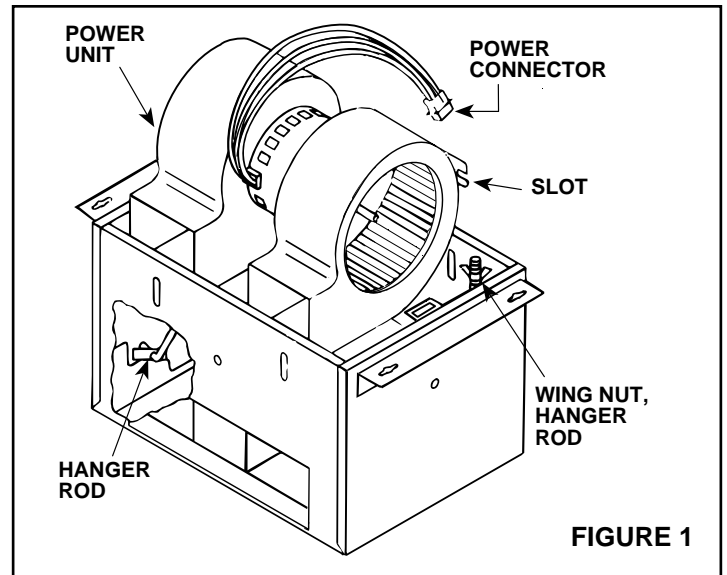

FIGURE 1
1. **Refer to Figure 1.** Remove power unit from housing assembly.